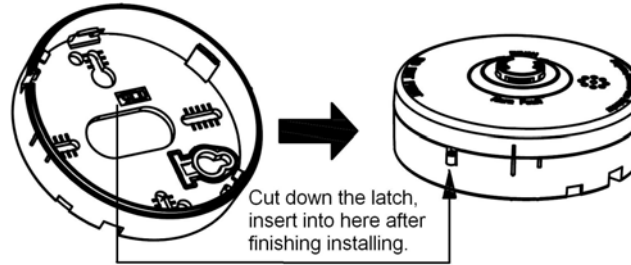

Fig. 6 –Tamper-proof latch
- Cut down the tamper-proof latch, and it should be inserted to the detector as indicated in Fig.6 after installation. It will lock the detector head to the base to prevent unauthorized removal without tool.